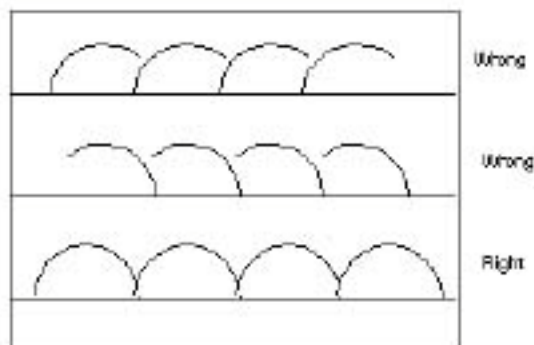

Figure 7-2. Rectified sine wave at TP1 of Demodulator 1 after adjusting R25.
4. Adjust potentiometer R25 on Demodulator 1 for a rectified sine wave. **Figure 7-2** shows the appropriate pattern.